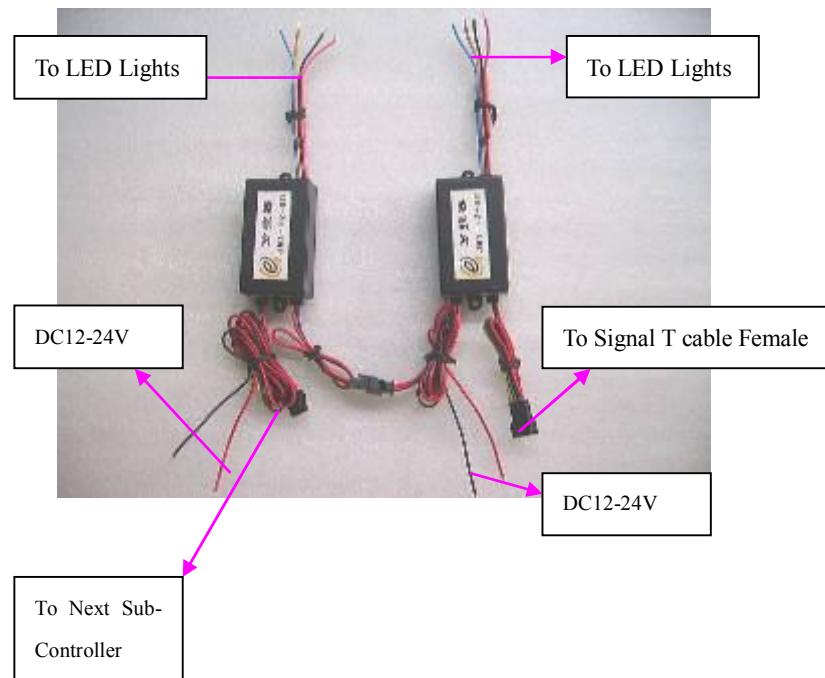

Figure 1
1、Connect one side of the signal T connector into the master controller; the other side of the signal T connector has red / black wires and female connector, the red / black wires connect to DC 12V switching power (main-controller power supply), the female connector connects to the male connector on JM1 single pixel sub-controller, see figure 1. Then connect the red / black wires on JM1 single pixel controller to DC switching power, and then connect the slave cables with light source by V+, R, G, B order. Connect the first slave female connector to the male connector on the second slave controller, see figure 2, and connect the second power with light source correctly, and so on. All slave controllers can be connected as above steps and align the light sources in order. Power on, several of JM1-12V slave controllers operate under the master controller programming. The master controller program can be edited and modified by Color Edit software, then downloaded by PC, see details in Color Edit software users' manual.